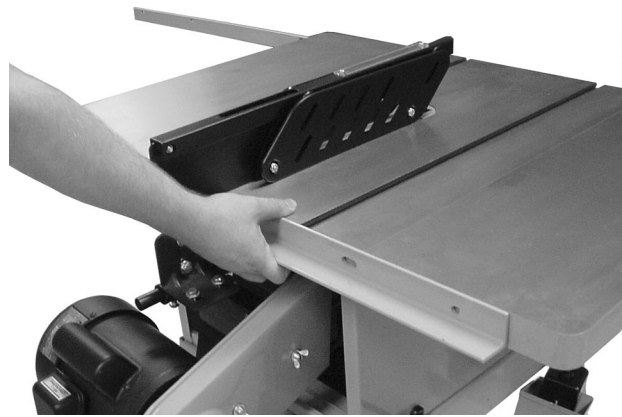

Figure 6
Refer to Figure 6:
2. Align the holes in the back rail to the holes in the table top, as shown in Figure 6.